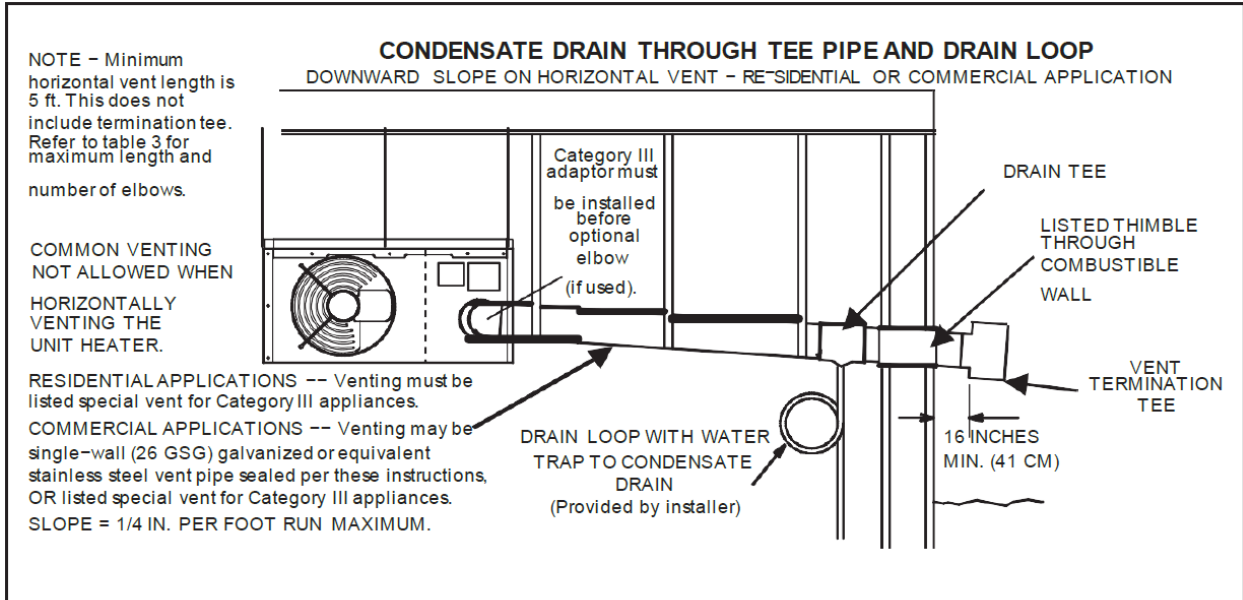

FIGURE 4
- 17 - Select a wall termination point that will maintain 1/4" rise per foot slope of horizontal run of vent pipe. In areas where authorities having jurisdiction permit, a downward slope of maximum 1/4" per foot is also acceptable. Condensate drainage can be collected in a tee pipe section (figure 4) with drain loop similar to one used for upward slope vent, or allowed to drip through the vent termination, if permitted by authorities (figure 5).